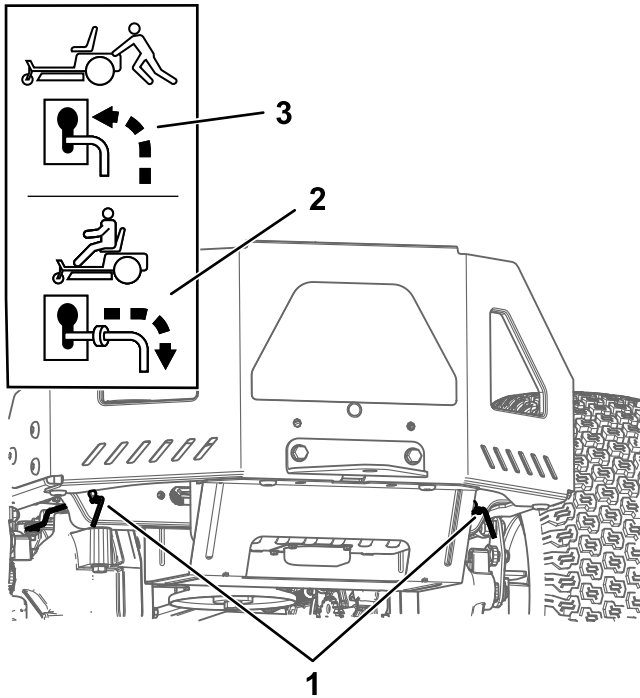

Figure 31
4. Move both bypass levers forward through the slotted hole and down to lock them in place (Figure 31).